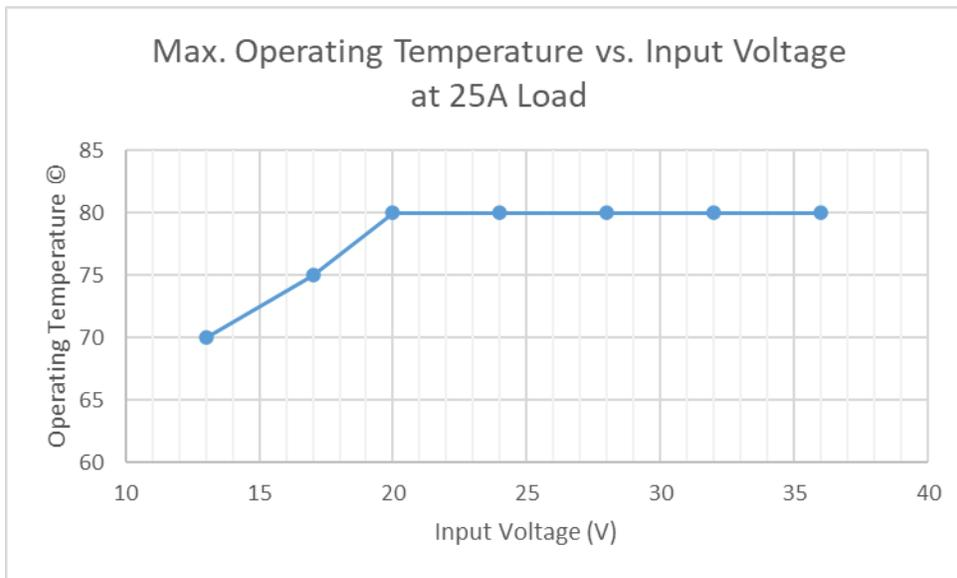

Figure 3.0 Max. Operating Temperature vs. Input Voltage at 25A Load
- -40 to 80 °C (-40 to 176 °F) operating temperature (Output derating for input less than 20V, see figure 3.0)
Temperature Rating	Operating: -40 to 80°C (-40 to 176°F) see figure 3.0 Storage: -50 to 90°C (-58 to 194°F) When the unit operates below 18V and at maximum load for long periods of time (> 30 seconds), the maximum operating temperature is 75°C. Refer to Figure 3.0.